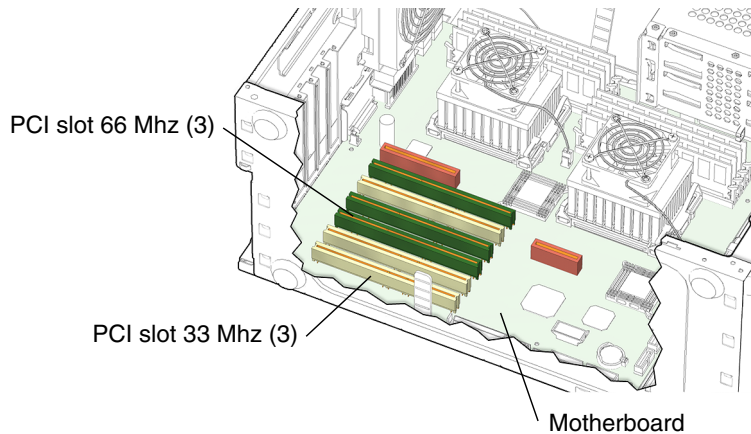

FIGURE 11-31 Locating PCI Slots
2. Locate the available PCI card slots (FIGURE 11-31).